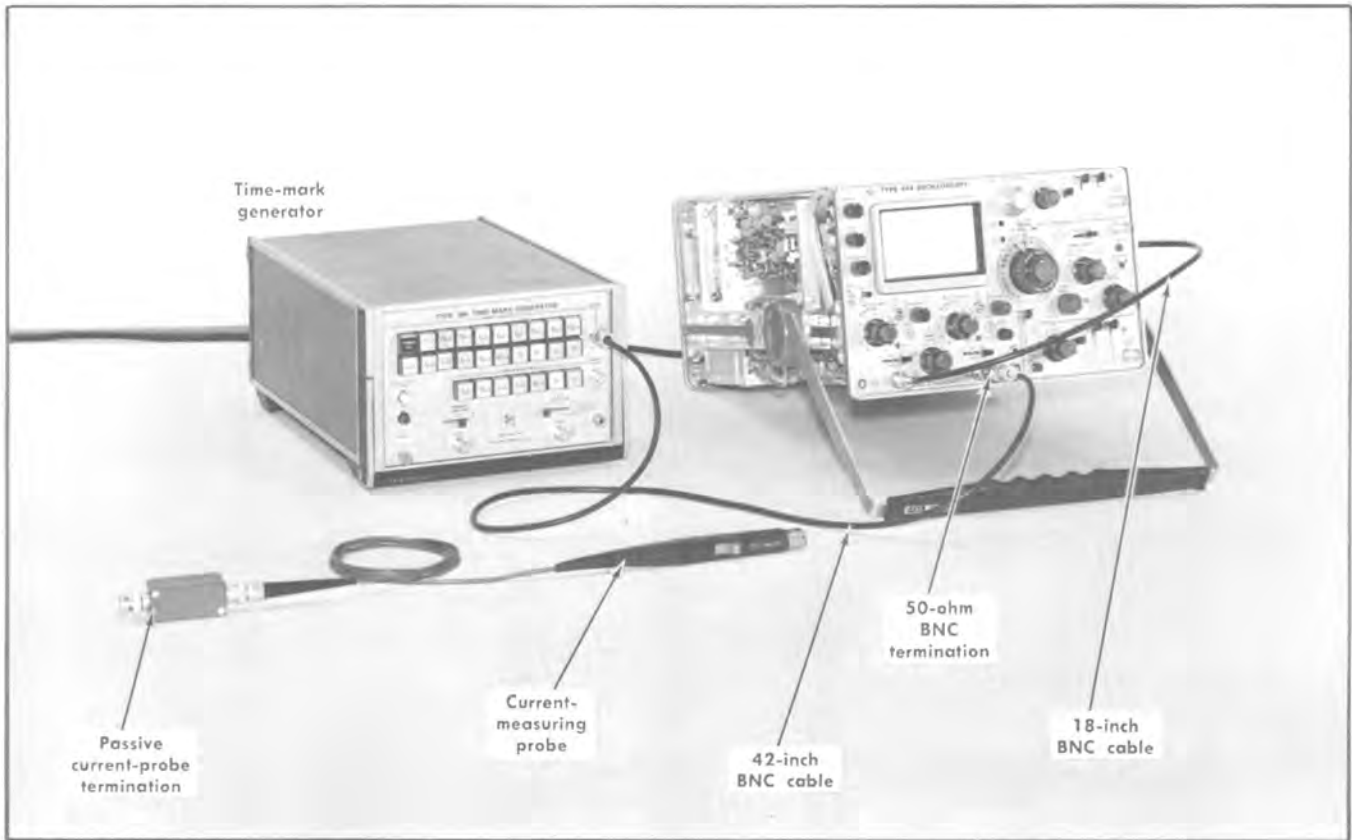

Fig. 6-62. Initial test equipment setup for steps 77 through 80.
77. Adjust Calibrator Repetition Rate ❶
- a. Test equipment setup is shown in Fig. 6-62.